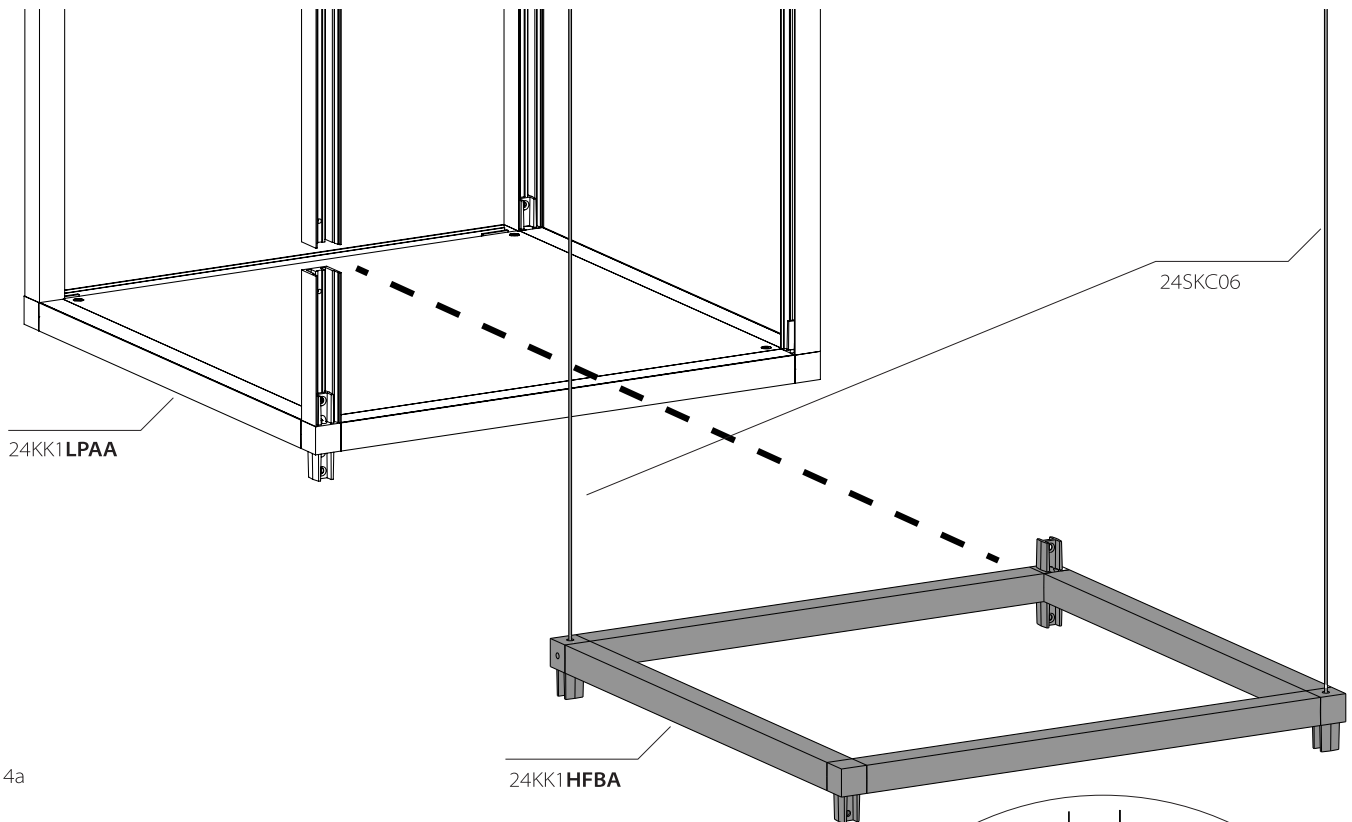

Fig. 4a
- 2a. Install 24KK1HFBA to 24KK1LPAA assembly as shown in Fig. 4a. Install 24SKC06 to hanging corners and tighten set screw with included Slotted Screwdriver.